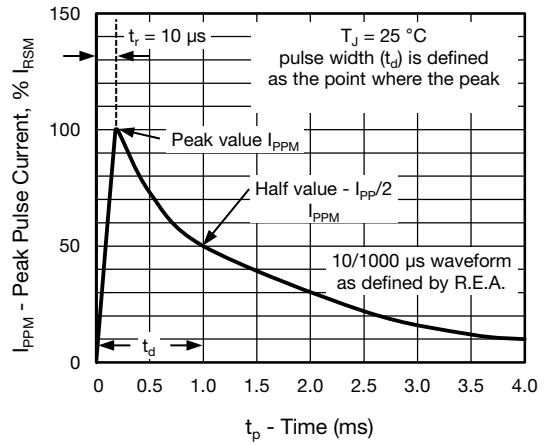

Fig. 3 - Pulse Waveform
(1) Non-repetitive current pulse per fig.3 and derated above TA = 25 °C
- (2) Surge current waveform per fig.3